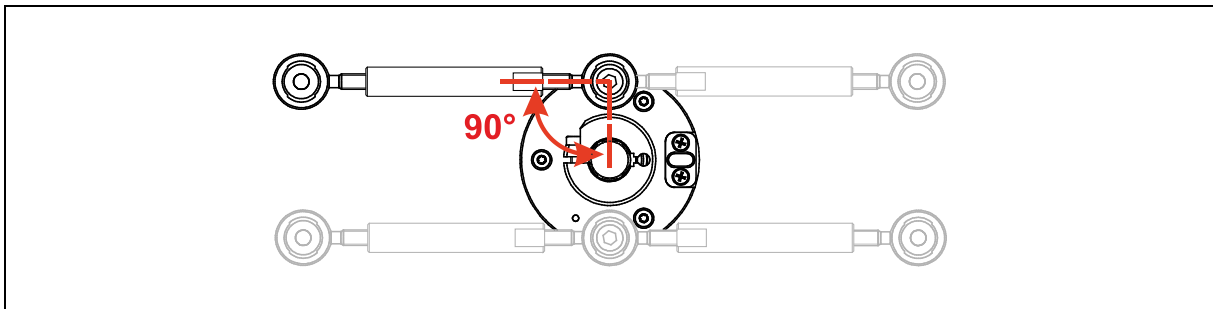

Figure 11: Joint head rod – mounting variants
- For maximum support of the measuring system, the joint head rod must be mounted at a 90° angle to the line connecting the threaded hole to the center of the shaft, see Figure 11.